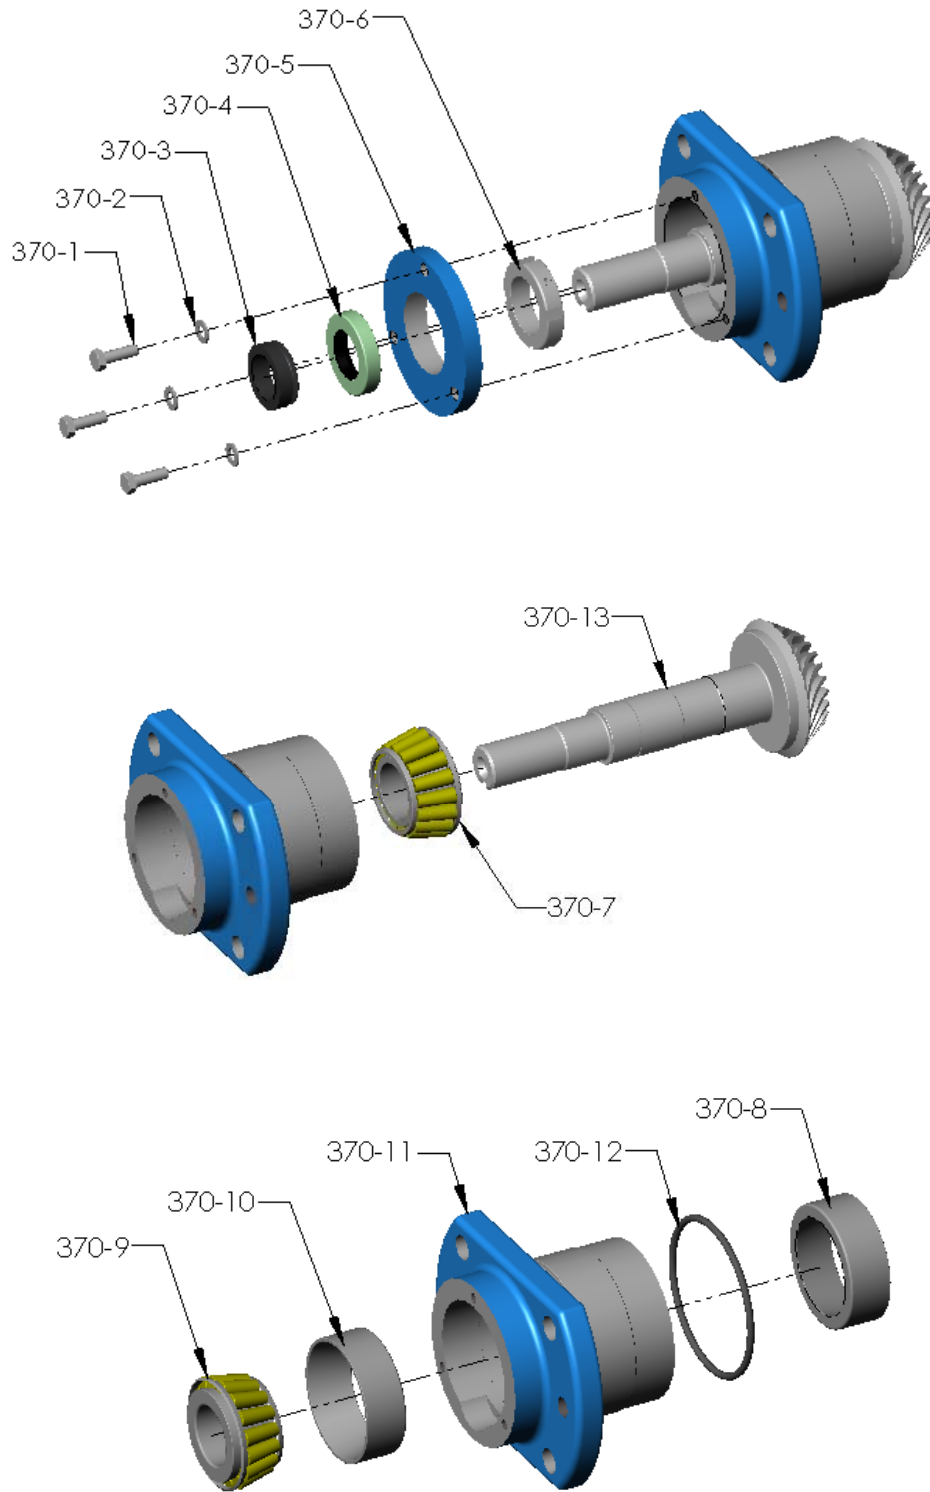

Figure 3 – Spiral bevel cartridge
- C. Bevel Cartridge disassembly, remove following items (Refer Figure 3):
- D. Use a bearing puller to remove bearing cone [370-7] off bevel pinion [370-13]. Or if necessary, do following steps (refer Figure 3):
- (1) Cut roller cage and remove rollers.
- (2) Hold the pinion shaft from large end.